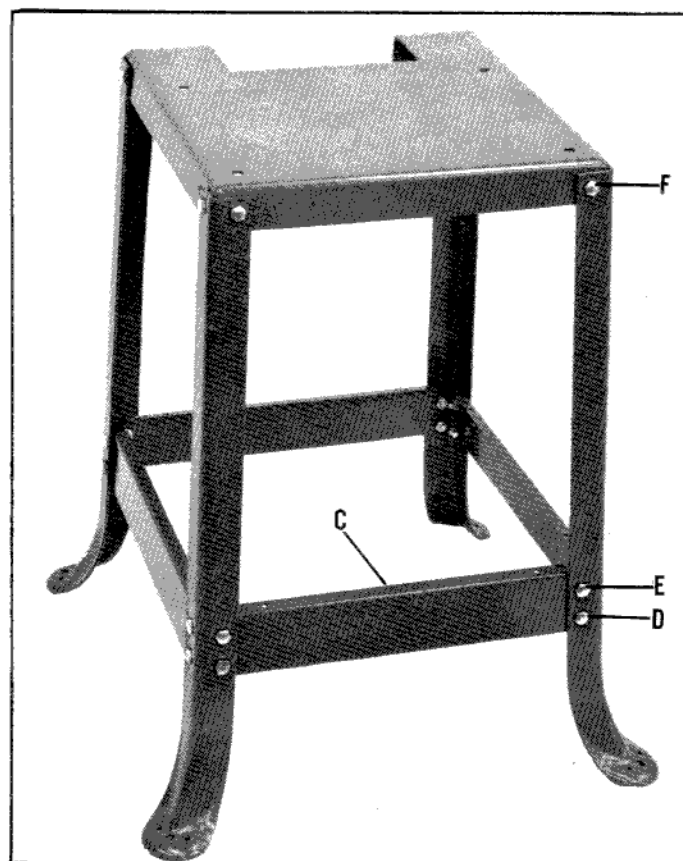

Fig. 2
3. Assemble the four tie bars to the legs, making sure the lip (C) Fig. 2, will be toward the top of the stand as shown, using the sixteen hex head screws, lockwasher and nuts supplied. Only tighten the nuts finger tight at this time.
4. Turn the stand to the upright position, as shown in Fig. 2, and tighten the nuts and bolts in the following order. First the eight lower tie bar bolts and nuts (D); second the eight upper tie bar bolts and nuts (E); third the eight top shelf bolts and nuts (F), Fig. 2.